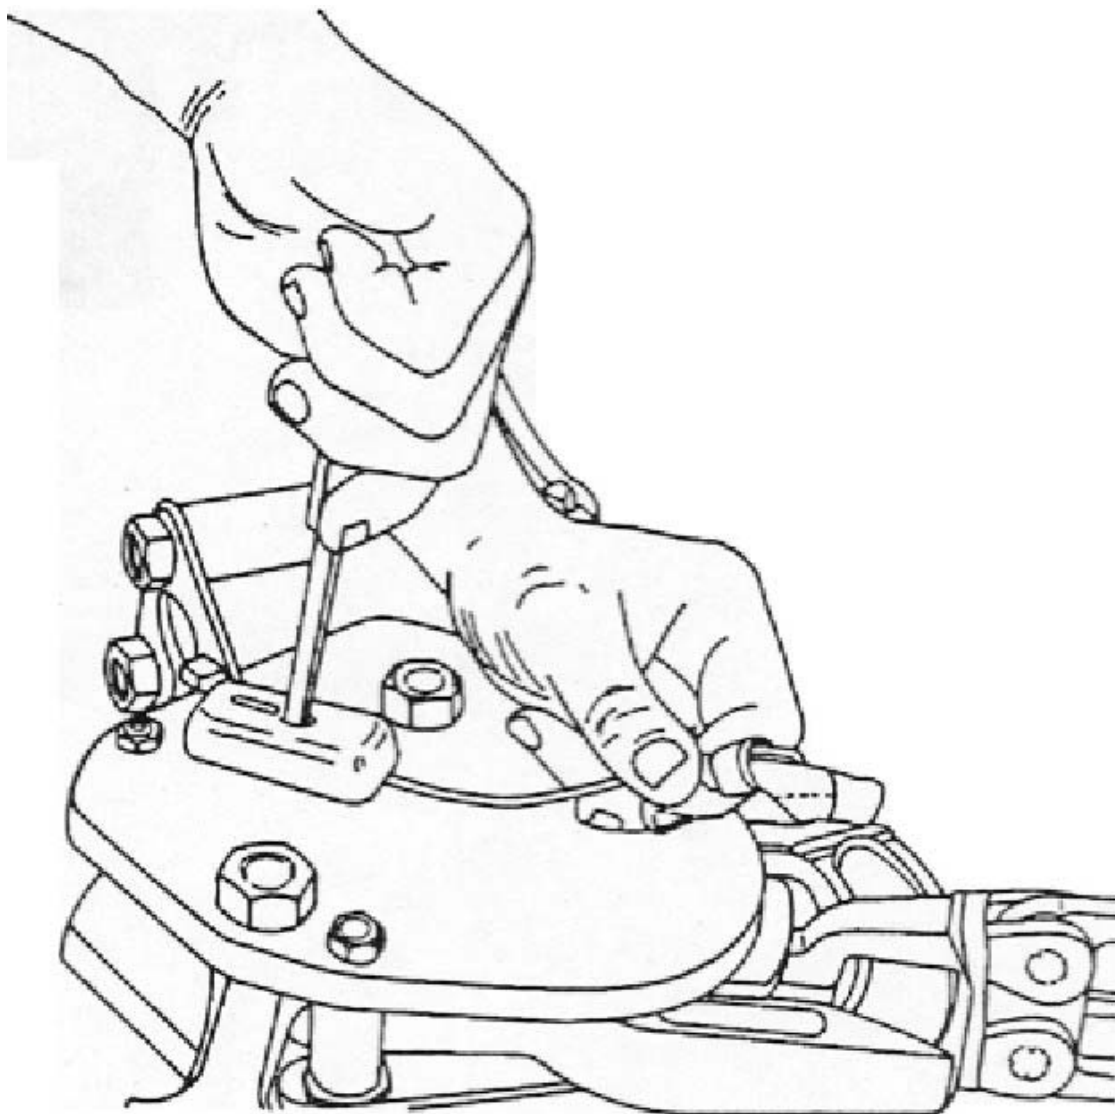

Figure 3-41
7. Arm the delay release timer. (See Figure 3-41)